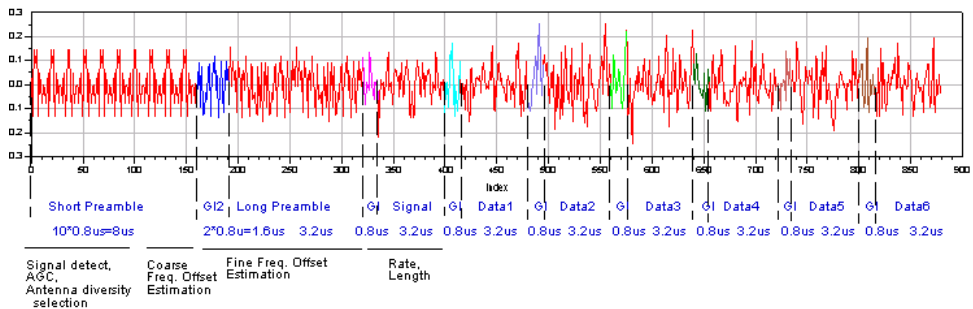

Figure 4-1. Structure of an OFDM burst.
The following is a brief description of the algorithm used (the algorithm used is the same as the one used in the Agilent 89600 VSA) and a detailed description of its arguments. Figure 4-1 shows the structure of an OFDM burst. Many of the terms mentioned later in these notes such as the preamble, SIGNAL symbol, DATA symbols, guard intervals (GI) are shown in this figure.